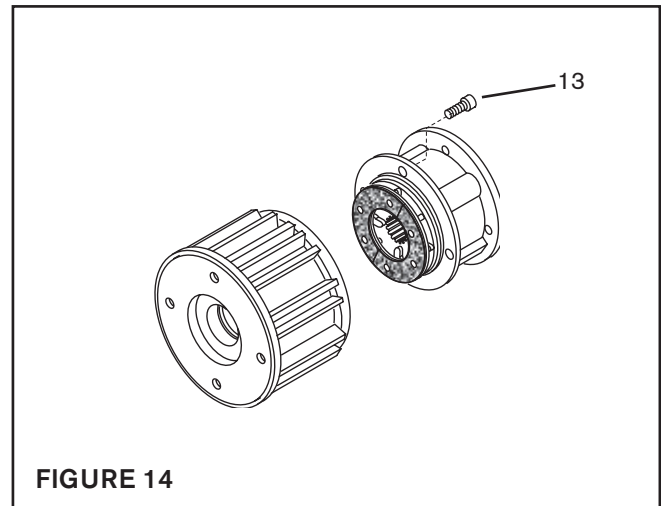

FIGURE 14
1. Remove the four Socket Head Cap Screws (Item 13) and separate the two halves of the FMCBE (See Figure 14).